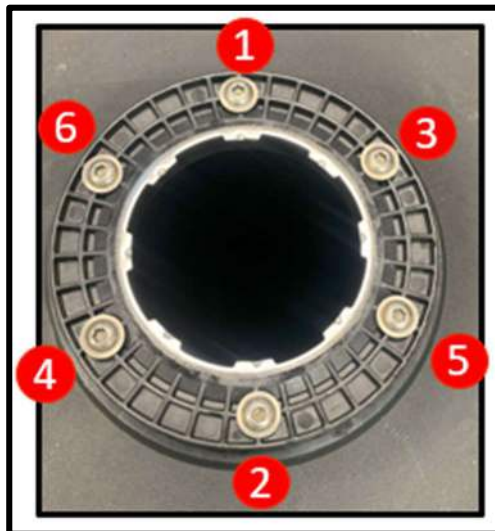

Figure 2.5 Adapter Installation
- 3) secure the adapter using six existing screws. Torque the screws to 30-40in.-lbs in a star pattern. Refer **Figure 2.5**.